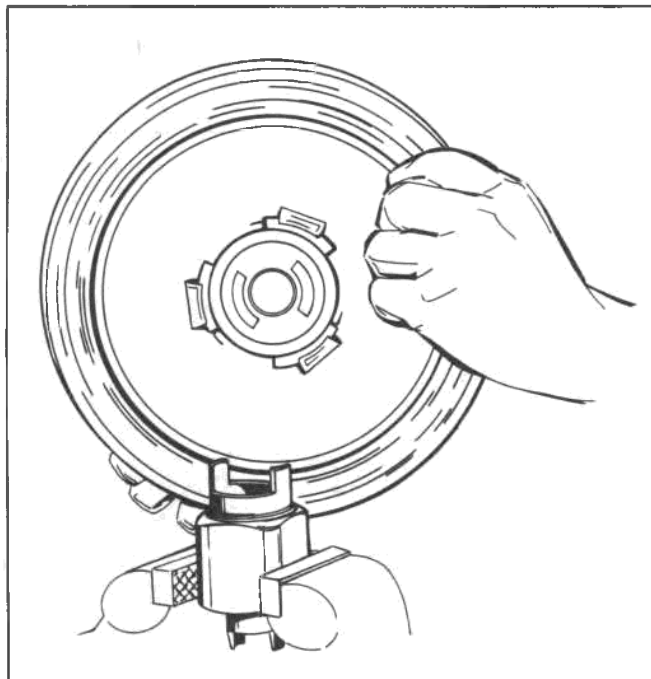

Fig. 5-4A--Positioning Secondary Power Piston in Tool J-23101 (Large Dia. End Up)
2. Mount double-ended Tool J-23101 (with large diameter end up) in a vise. Position the secondary power piston so that the two radial slots in the piston fit over the ears (tangs) of the tool (fig. 5-4A).
22. Mount Tool J-23101 (with large diameter end up) in a vise. Position the secondary power piston so that the radial slots in the piston fit over the ears (tang) of the tool. Apply a light coat of silicone lubricant to the tube of the secondary power piston (fig. 5-4A).